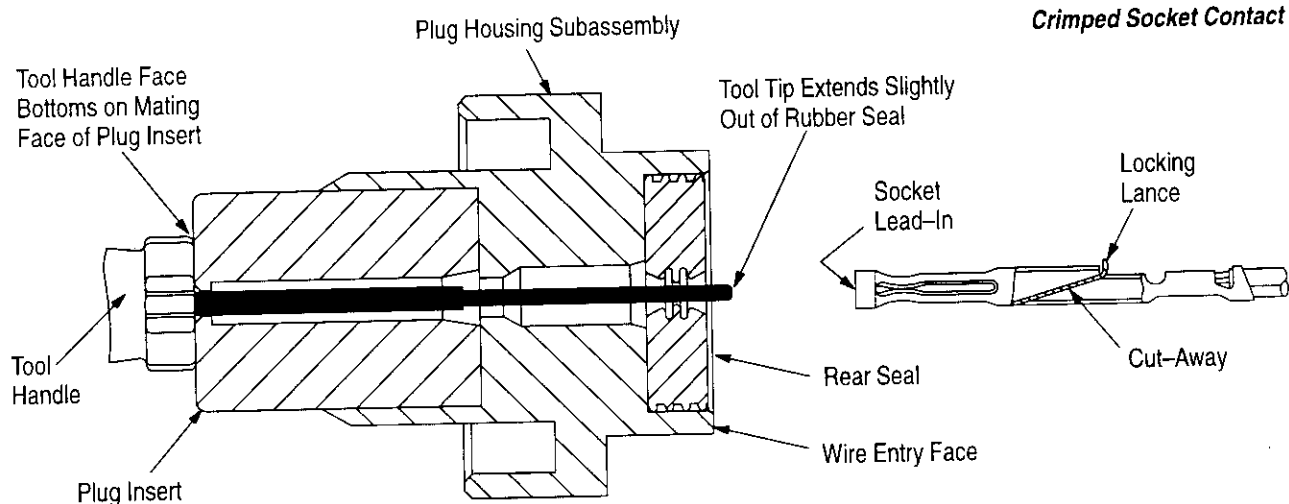

Figure 2
3. INSERTION PROCEDURE (Figure 2)